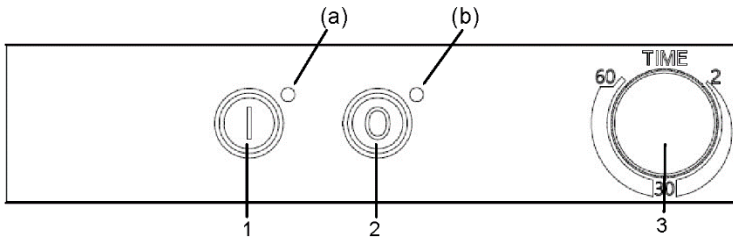

Fig. 7
**START** button (Ref. 1 Fig. 7): press to start the work cycle.
**OFF** button (Ref. 2 Fig. 7): press to stop the work cycle.
**TIMER** (Ref. 3 Fig. 7): this allows the user to regulate the operation from 2 to 60 minutes **LED (a)**: located next to the ON button indicates that the device is working.